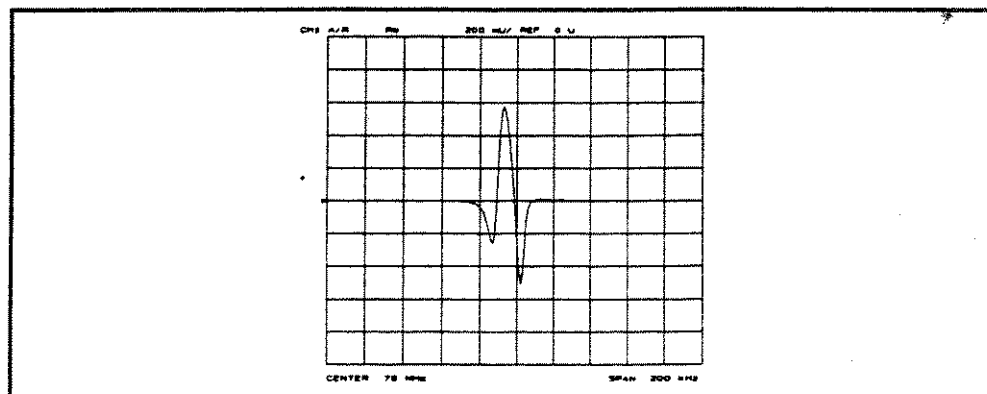

Figure 9-14. Real Format
**REAL** (REAL) displays only the real (resistive) portion of the measurement data in Cartesian format (Figure 9-14). This is similar to the linear magnitude format, but can show both positive and negative values.